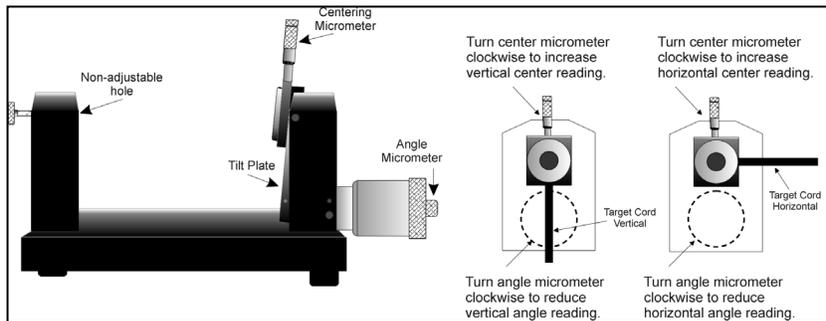
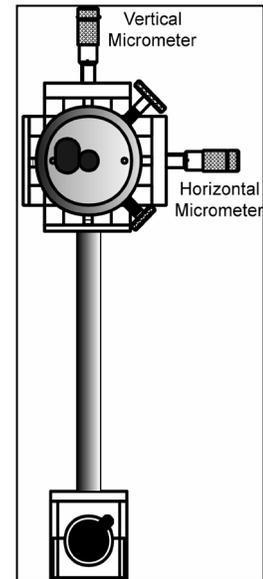

Figure 47 – Model A-807 Calibration Mounting Fixture
Figure 48 – T-230 Target Stand
*Note:* Figure 47 shows the target mounted in the Hamar Laser A-807 fixture stand. In order to take advantage of the automated calibration features available with the Read8 software, this fixture stand must be used for calibrating center and slope targets. Mount the laser in the non-adjustable hole on the fixture. Mount the target in the tilt plate with both the target and laser in the normal position (cord down).
An appropriate target stand with micrometer stage, such as the Hamar Laser T-230, or any calibrated x-y slide may be used when calibrating center-only targets (see Figure 48).
*Note: The preferred procedure is to calibrate the vertical axes, both center and slope if appropriate, then rotate the target in the fixture 90 degrees and calibrate the horizontal axes (see Figure 47). If working with a fixture that has a horizontal micrometer, there is no need to rotate the target (see Figure 48).*
*Note: If using the Model A-807 Calibration Mounting Fixture, (see Figure 47) the target must be rotated 90° before performing a horizontal calibration. If the calibration fixture you are using has two centering micrometers, such as the T-230, the horizontal centering micrometer may be used and there is no need to rotate the target.*
In order to use the automated features of the Read8 software, calibration for a center-and-slope target must be performed with the target mounted in the A-807 calibration mounting fixture (see Figure 47). This fixture is equipped with both a centering micrometer and an angle micrometer.
- Note: If using the Model A-807 Calibration Mounting Fixture, (see Figure 47) the target must be rotated 90° before performing a horizontal calibration. If the calibration fixture you are using has two centering micrometers, such as the T-230, the horizontal centering micrometer may be used and there is no need to rotate the target.*